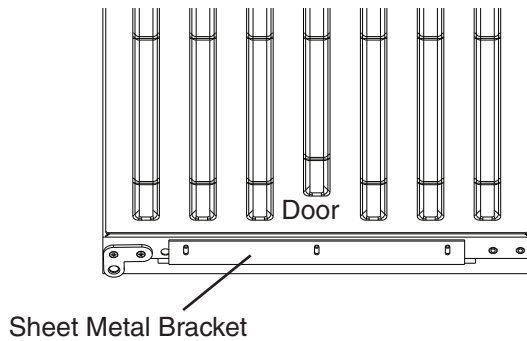

**Fig. 20**
- 1) Fasten the sheet metal bracket to the overlay panel using the two M4x8 truss head screws provided. **Snug the screws, but do not tighten.** See Fig. 20.